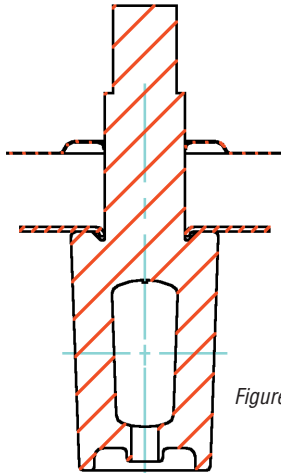

Figure 19
6. The metal diaphragm is removed from and replaced on the plug stem with the ID lip down (Figure 19).